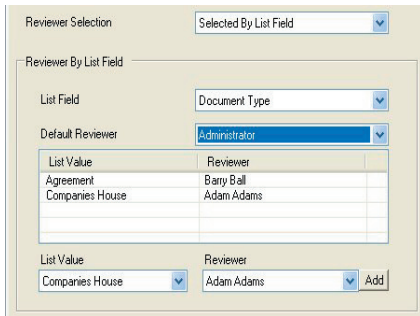

fig. 6.2.6.4.2.2 Project configuration - Find & View workflow Review options
- Indexed Reviewers (reviewers taken from indexed data) see fig.6.2.6.4.2.1.